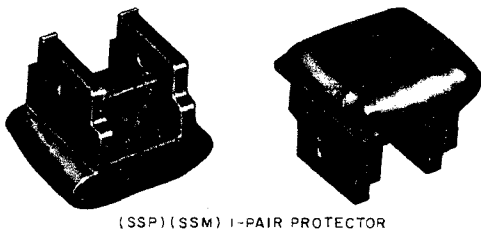

Fig. 5—AT-8660 F Clip Terminal Insulator
2.09 The AT-8660 F clip terminal insulator (Fig. 5) is used to mark special service circuits requiring SSP or SSM. The F clip terminal insulator mechanically protects one pair and may be located in adjacent pair position without interference to protect any number of pairs.